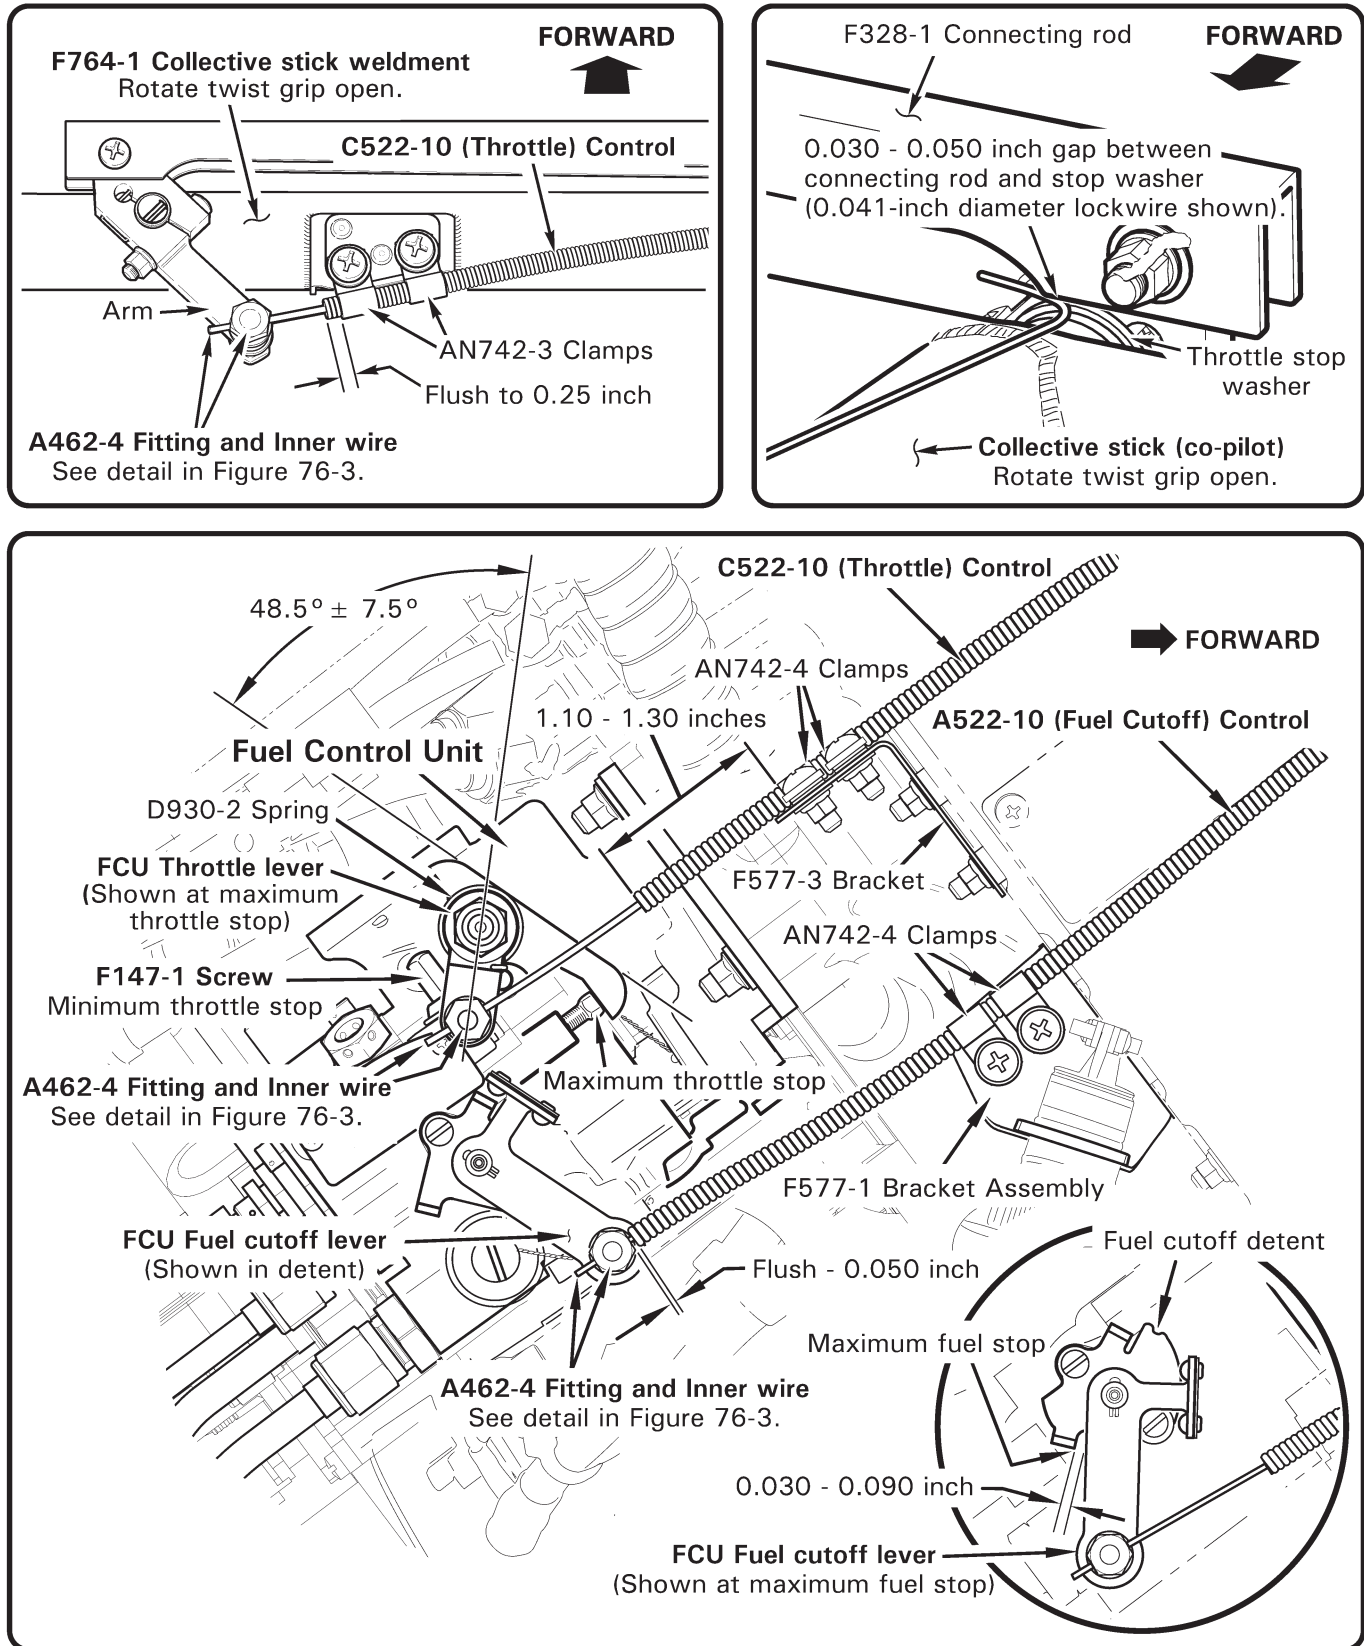

FIGURE 76-1 FUEL CONTROL UNIT
Refer to R66 Illustrated Parts Catalog (IPC) Figure 76-1.
2. Refer to Figure 76-1. Remove fasteners securing C522-10 throttle and A522-10 fuel cutoff control inner wires to FCU throttle and fuel cutoff levers.
2. Refer to Figure 76-1. Verify FCU throttle lever rigging angle is $48.5^{\circ} \pm 7.5^{\circ}$. As required, remove hardware securing serrated levers and reposition to proper angle. Install hardware, special torque nut per Section 20-33, & torque stripe per Figure 5-1.
2. Refer to Figure 76-1. Remove palnut and loosen nut securing A462-4 fitting and A522-10 (fuel cutoff) control inner wire to FCU fuel cutoff lever.